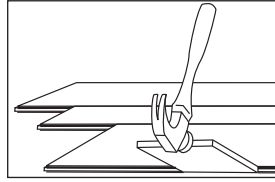

Figure 16
- It may be necessary to align the product with a cut-off piece of scrap as shown (Figure 16 - Keep scrap angle low to avoid edge damage).